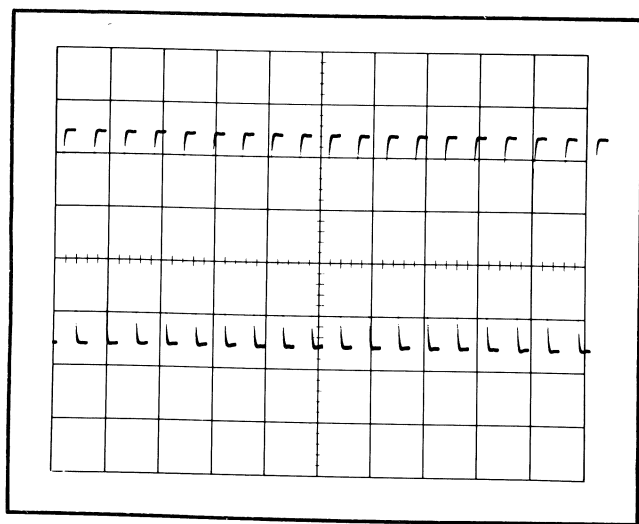

Fig. 6-15. Correct squarewave waveform resulting from correctly adjusted C18 (Step 11, last part).
k. Complete the adjustment of C18 by setting it to obtain a flat-top square wave (free-running). See Fig. 6-15, which shows the correct waveform.